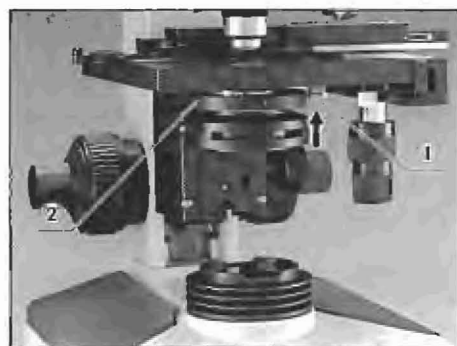

Fig. 8
Insert the condenser into the condenser holder (2) from below, with the condenser iris diaphragm lever, pointing in the microscope front, and tighten the clamping screw (1). (Fig. 8)